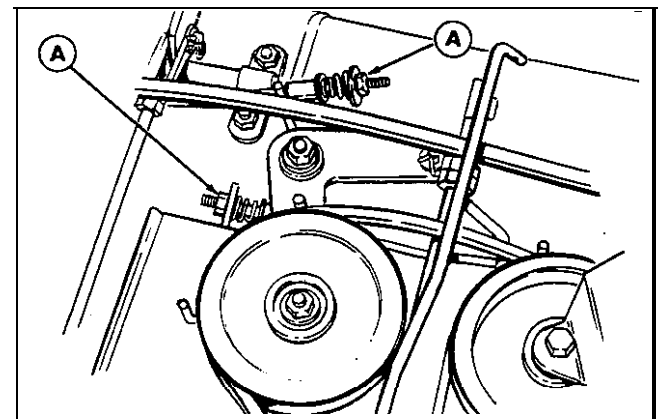

Figure 6.
- c. If adjustment is required, turn adjusting nuts (A, figure 6) until proper clearance is reached.